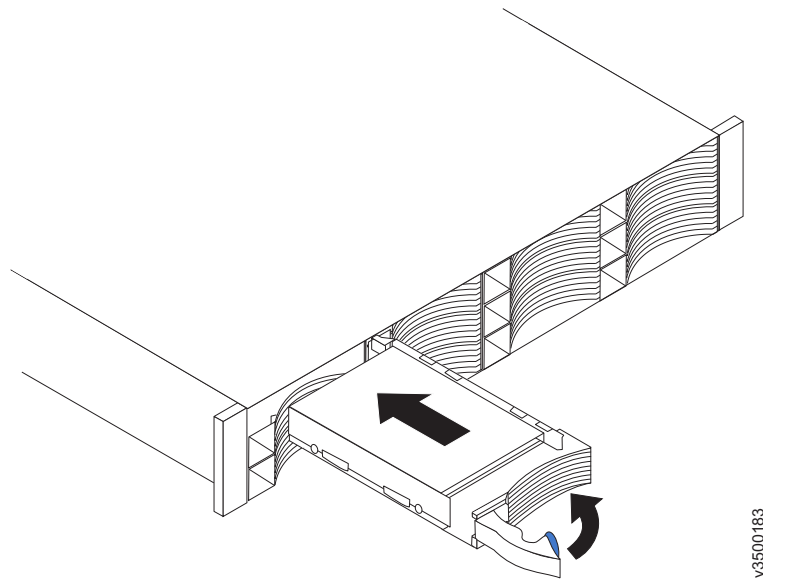

Figure 95. Installing and locking a 3.5-inch drive into its slot
14. Align the drive assembly with the guide rails in the bay (see Figure 95 on page 322).